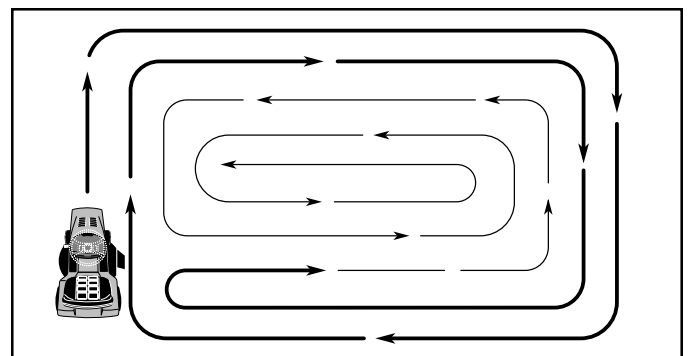

FIG. 8
- When mowing large areas, start by turning to the right so that clippings will discharge away from shrubs, fences, driveways, etc. After one or two rounds, mow in the opposite direction making left hand turns until finished (See Fig. 8 ).